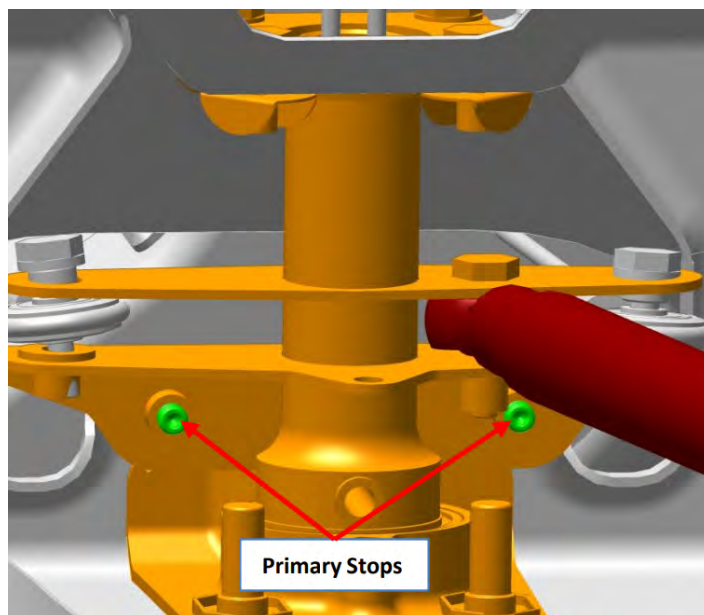

FIGURE 9-54
4. Maximum travel limits are set as specified. See Figure 9-54.